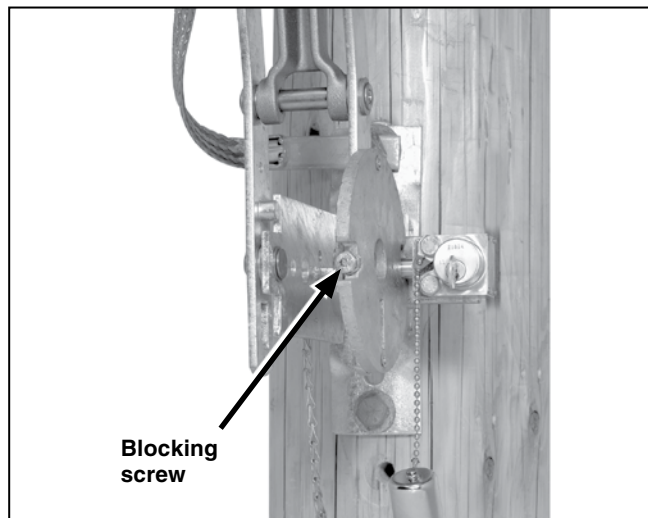

Figure 16. The blocking slot in the locking disc.
STEP 26. Block one of the two slots in the locking disc with the blocking screw provided. (The slot to be blocked depends on whether a locked-open or locked-closed arrangement is required.) See Figure 16.